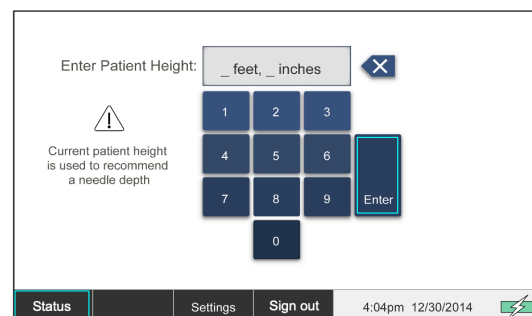

Figure 18 Enter Patient Height Screen
- To change a setting, start by pressing Settings on the **Enter Patient Height** screen. You will need to enter the code on the **Enter Password** screen to access the **Enter Patient Height** screen (see Figure 18).